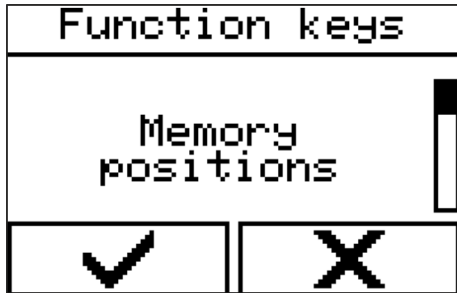

Fig. 39: Selecting a menu
1. Select the menu via 'Hand switch' → 'Premium functions' → 'Settings of function keys' → 'Memory positions' (Fig. 39).